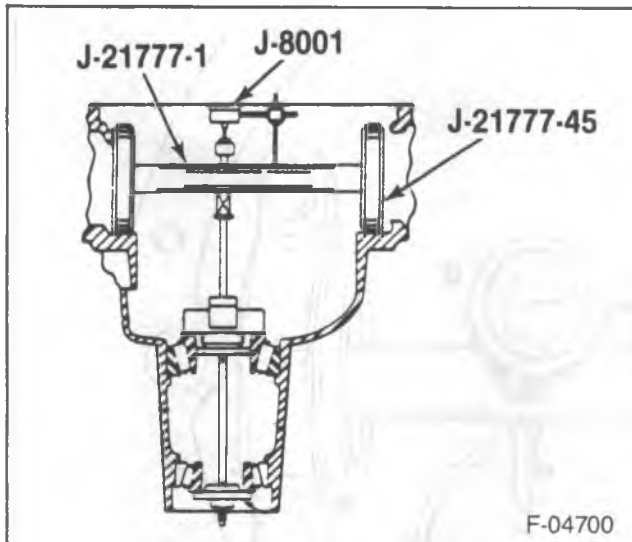

Figure 12—Pinion Gaging Tools
8. Assemble J 21777-45, J 21777-1 Arbor, and J 8001 to the differential bearing bore as shown in figure 12.